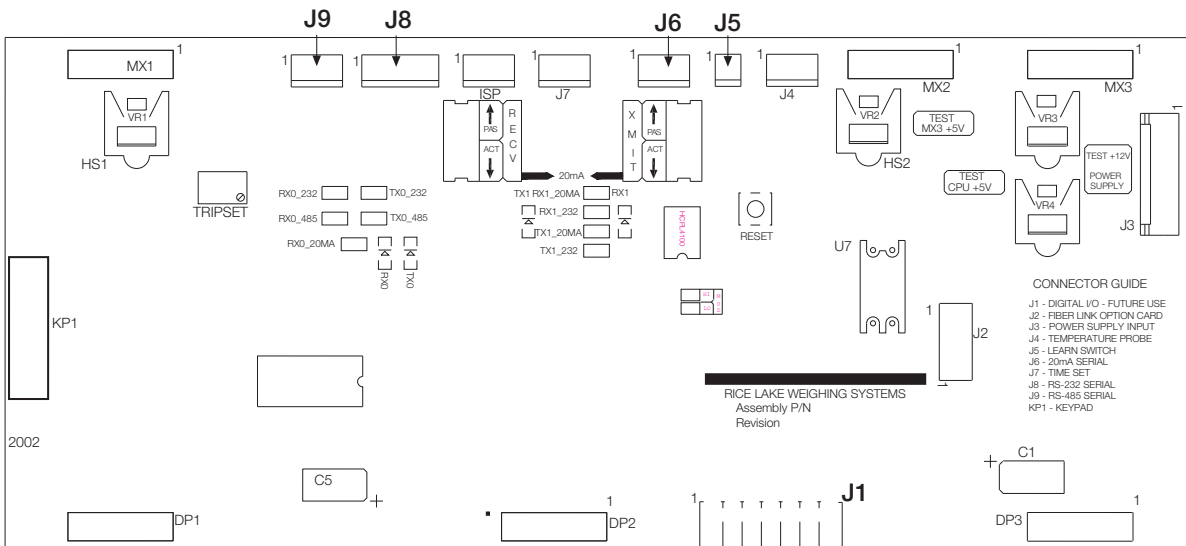
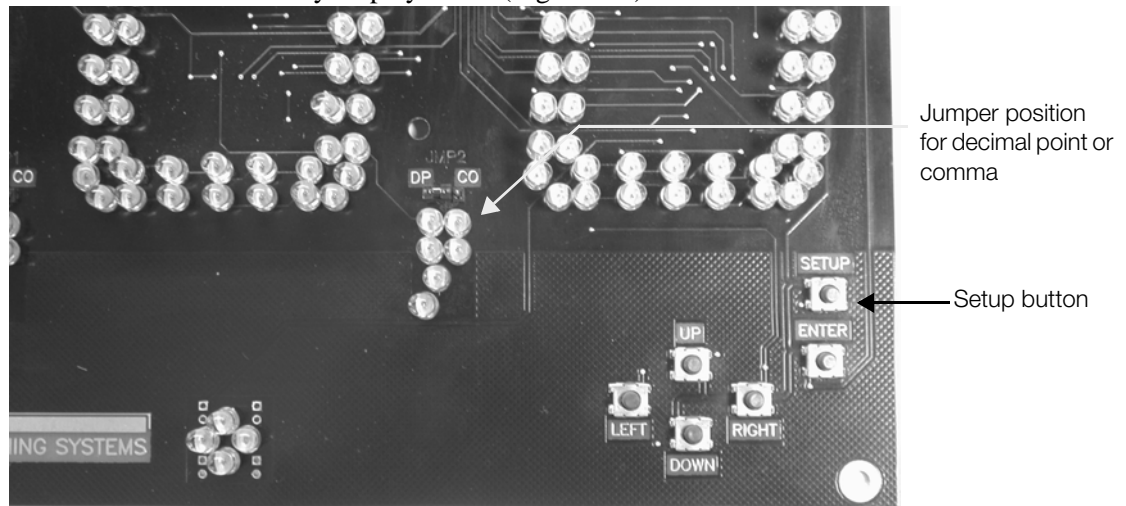

Figure 3-1. *LaserLight* CPU Board
Figure 3-2. Setup Button Location on Secondary Display Board (7-Segment Display)
The primary display board has decimal LED's. These can be changed to commas by moving a jumper located on the front of the display board shown in Figure 3-2 on page 10.
2. Visually inspect that the Auto-Learn button is connected to J5 on the CPU board (see Figure 3-1 for plug-in location).
To begin configuration, open the enclosure (See Section 2.2 on page 3 for enclosure disassembly instructions), to access the CPU board (Figure 3-1) and digit display board (Figure 3-2).
The setup button is located on the secondary display board (Figure 3-2).
The display board is mounted on a hinged mounting plate to allow for easy access to the CPU board. Press the **SETUP** button (shown in Figure 3-2) to access main menu configuration parameters.
When configuring the indicator attached to the remote display, ensure that the decimal point configuration is compatible with the remote display. The *LaserLight* 7-segment remote display allows none, one, or two decimal places (see Figure 3-2 for jumper positions). The 8- or 12-character matrix displays use one character position for the decimal point.